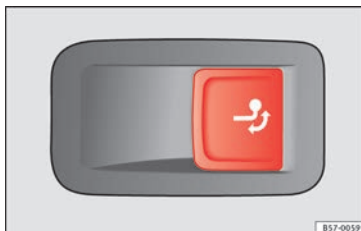

Fig. 235 On the right side of the luggage compartment: button for unlocking the tow hitch.
- Pull the »» **Fig. 235** button briefly. The tow hitch unlocks electrically and automatically turns outwards. The control lamp in the button will flash »» **Fig. 235**.
- Pull the »» **Fig. 235** button briefly. The tow hitch unlocks electrically.
- Turn the tow hitch under the bumper with your hand until you feel and see that it engages and the control lamp on the »» Fig. 235 button stays on.
- If the warning light of the button »» Fig. 235 is *flashing*, this means that the tow hitch has not been attached properly or is damaged »» ⚠.
- Never press the »» Fig. 235 button when there is a trailer hooked to the vehicle or when a carrier system or other accessories are mounted on the tow hitch.